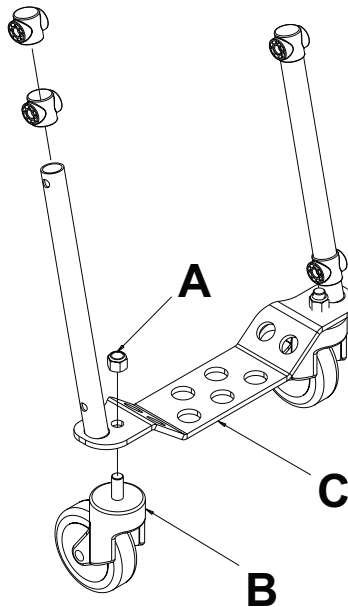

Figure 22 – Remove caster assembly
2. Using a 3/4" combination wrench and a 3/8" hex wrench with ball end, remove the Nylock hex nut (A) that secures the caster assembly (B) to the foot section (C) (Figure 22). Discard the caster assembly and nut.